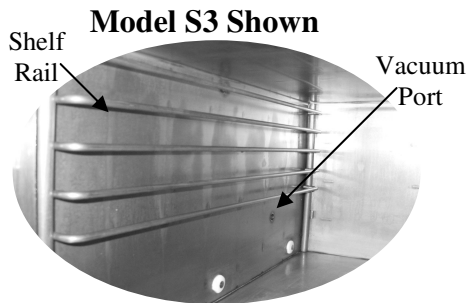

Fig. 1. Inside Chamber View
4. Remove top left and bottom left pan rails.	See Fig 1 . Inside Chamber View.
5. Locate chamber port(s).	See Fig 1 . Inside Chamber View.
S6 steamer may have one or two ports. If there are two ports, they will be located one directly above the other on the left hand wall inside the cooking chamber. Lower port is located just above water sensor lines and upper one about 1 ½" from top of unit and behind vacuum switch port. **S3** steamer will have only one port as in **Fig. 1**